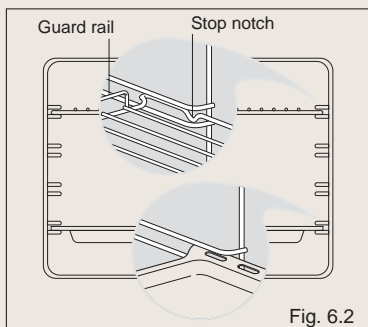

Fig. 6.2
- * Slide into the guides, the shelf and the tray (fig. 6.2).